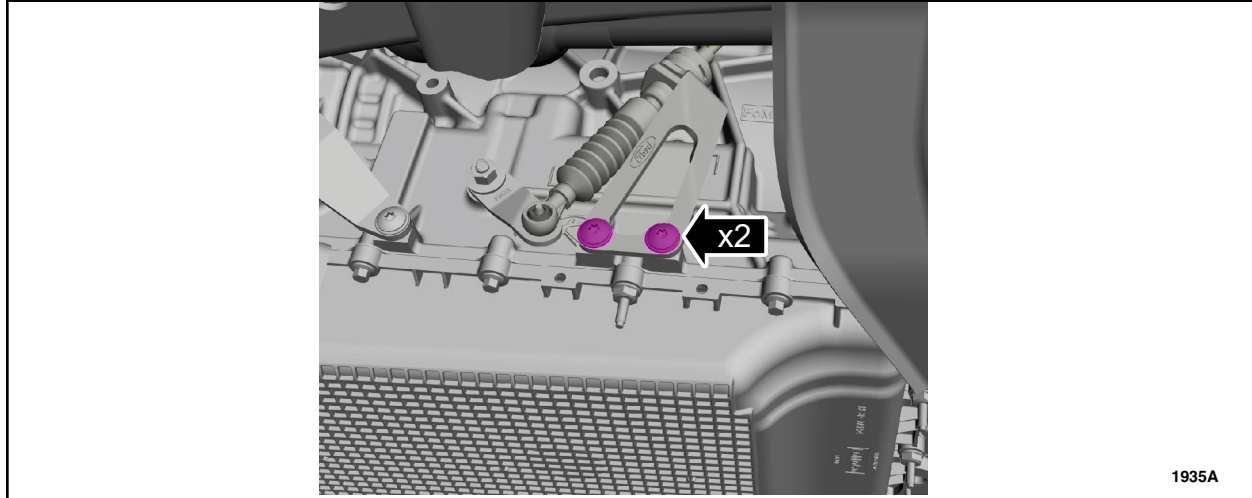

FIGURE 2
3. Torque the two transmission shift lever cable bracket fasteners, if the fasteners are missing or damaged replace the fasteners. Proceed to step 4. See Figure 2.